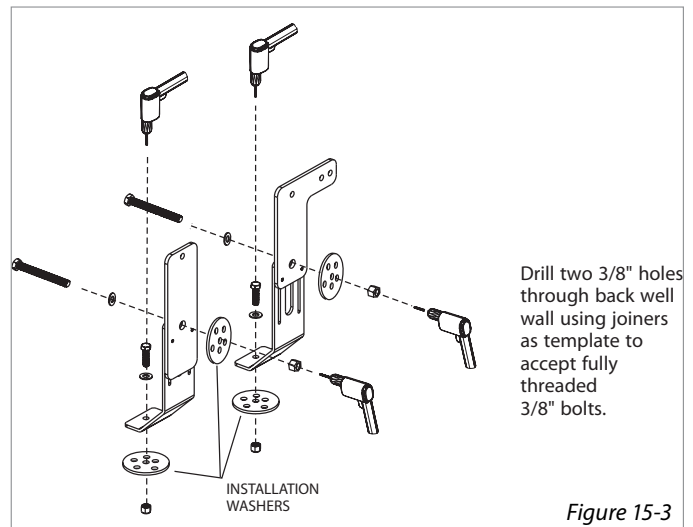

Figure 15-3
- Drill two 3/8" holes in floor of well using joiners as template. Fasten 3/8" hardware (x2). [Figure 15-3]